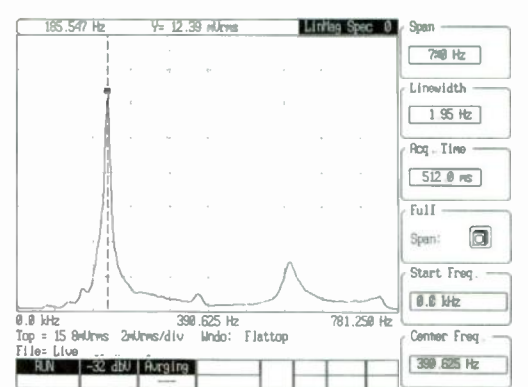
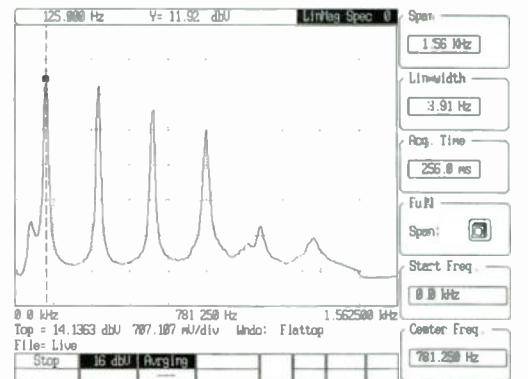

FIGURE 2: Basic resonance characteristic for the 17" tube.
FIGURE 3: Basic resonance characteristic for the 29" tube.
*Figure 2* shows the basic resonance characteristic for the 17" tube, while *Fig. 3* shows that for the longer one. The fiber filler used in these tests is a polyester type that you can load to a density between 0.4–0.66 lb/ft3 and apparently still meet most of the criteria required by Bradbury's theory.
Figures 2 and 3 are for free-air resonance, i.e., no filler in either tube. Figures 4 and 7 are for fully filled tubes. If the filler actually modified the velocity of sound and was equally effective for the entire tube volume, you would expect the harmonic characteristics—both in relative amplitude and frequency—also to be equal.
The difference in harmonics between Figs. 2 and 4 indicates more modification of the tube's sonic characteristics than a simple reduction of the interior sonic velocity. It also seems to indicate a "nonlinear" nonlinearity. That is, the effect on the harmonics appears to be related to other variables than just frequency.